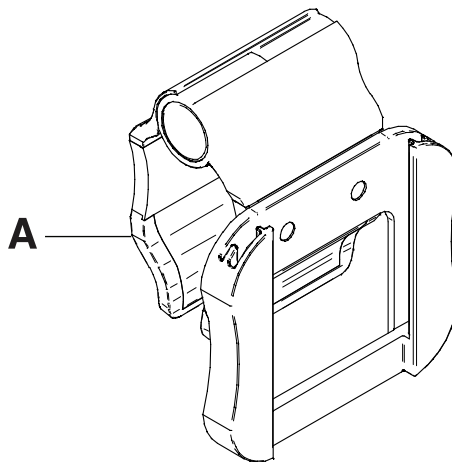

Figure 124: Patient control pendant clip
1. Raise the clip (A) (Figure 124 on page 108).